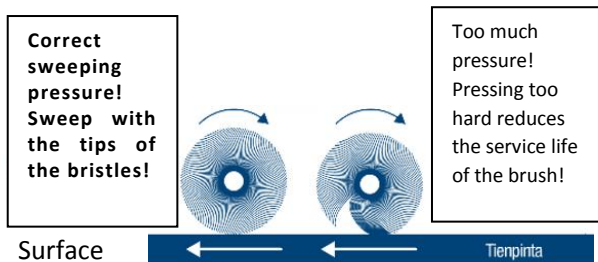

Figure 5
- The sweeping result is optimal, when the brush disc bristles press to against the ground by 1–2 cm (Figure 5).